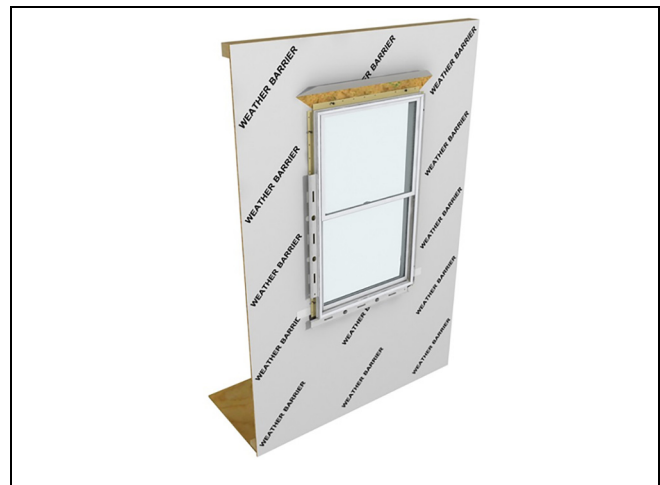

Figure 15
1. Center the window in the opening. Level at the sill and plumb the frame (interior/exterior). Shim under the sill to bring to level if necessary. See Figure 15.